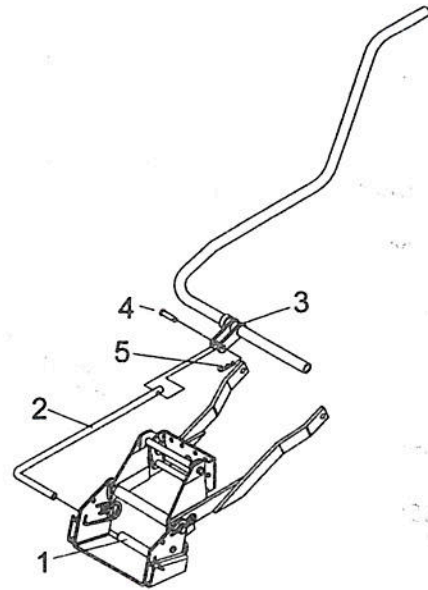

Figure 8
Slide the push arm (fig. 8, item 2) into the tube welded on the pivot support (item 1). Install the other end to the fork on the lift arm (item 3) and secure in place with pin (item 4) and hair pin 3mm.(item 5).